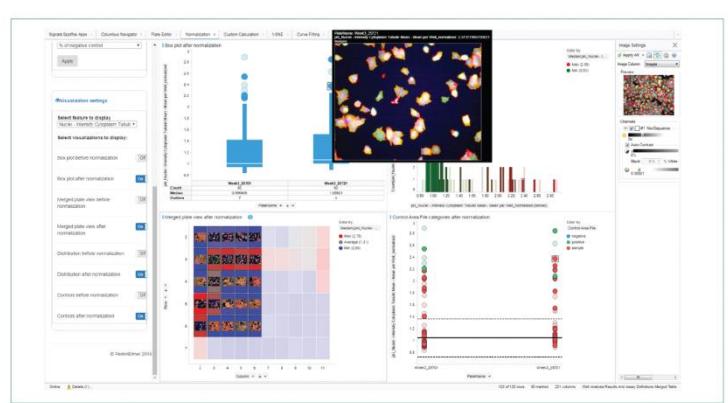

Figure 2. HCS SOM Map - Machine learning to group samples based on their phenotypic profile.
- High Content Screening (HCS) (Figure 2)